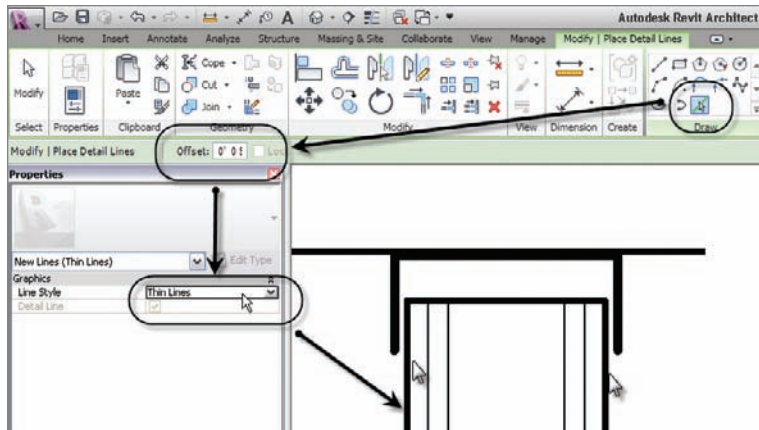

FIGURE 12.69 Adding the lines for the gypsum
3. On the Draw panel, click the Pick Lines icon, as shown in Figure 12.69.
5. Offset two lines in from the right and the left, as shown in Figure 12.69.